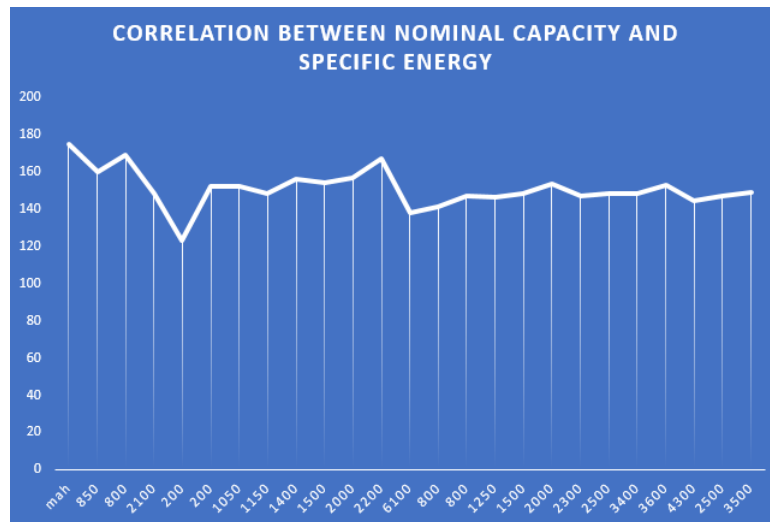

Figure 1: Correlation of normal capacity and specific energy
**Show on a graph the correlation (if existing) between Nominal Capacity and Specific Energy. Use min. 25 of Melastas High Drain Type Prismatic Li-polymer Battery cells with various c-rate and capacities as test data.** <http://www.melasta.com/product2.asp> As seen in figure 1, there is a correlation between nominal capacity and specific energy. As the capacity rise, the weight of the battery rises to, which means the ratio between capacity and specific energy remains the same. There are some deviations, these batteries must be considered "inefficient" as they don't provide enough capacity, compared to their weight. A battery with smaller/more capacity and lower/heigher weight will be a more optimal choice.